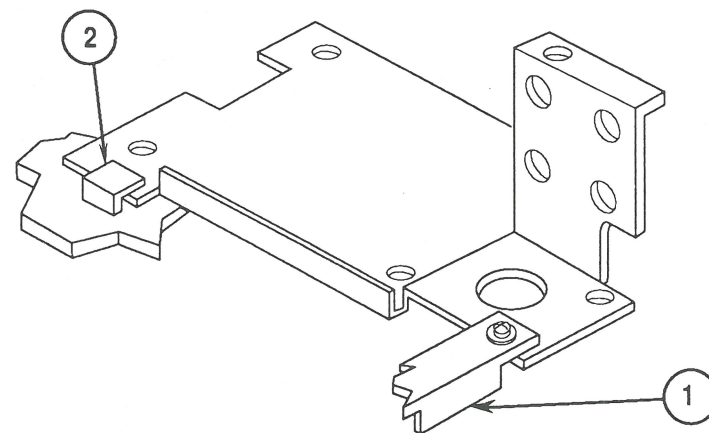

FIGURE 32
- The metal bracket at the left side is above the assembly bracket (Figure 32, #1).
- The assembly bracket is within its plastic retaining clip on the right side (Figure 32, #2).